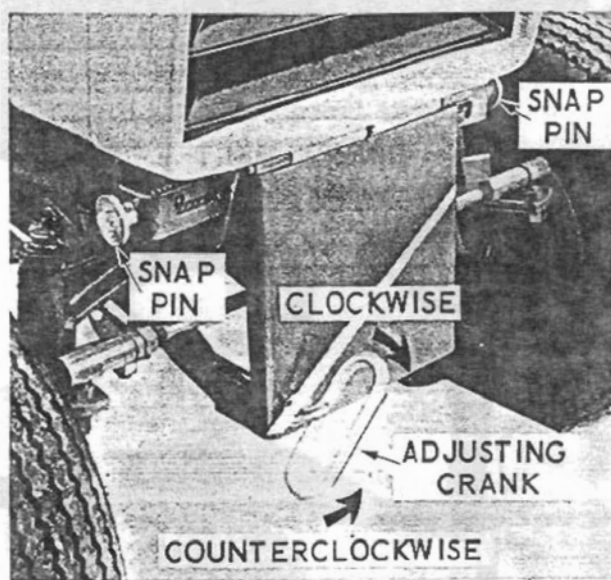

Figure 16.
2. Before attaching the mounting bracket on Model 220 or 222 tractors, turn the adjusting crank counterclockwise as far as possible to provide mounting clearance at the front axle. See Figure 16. This step is not required for the Model 442, 444, 644 and 646 tractors.